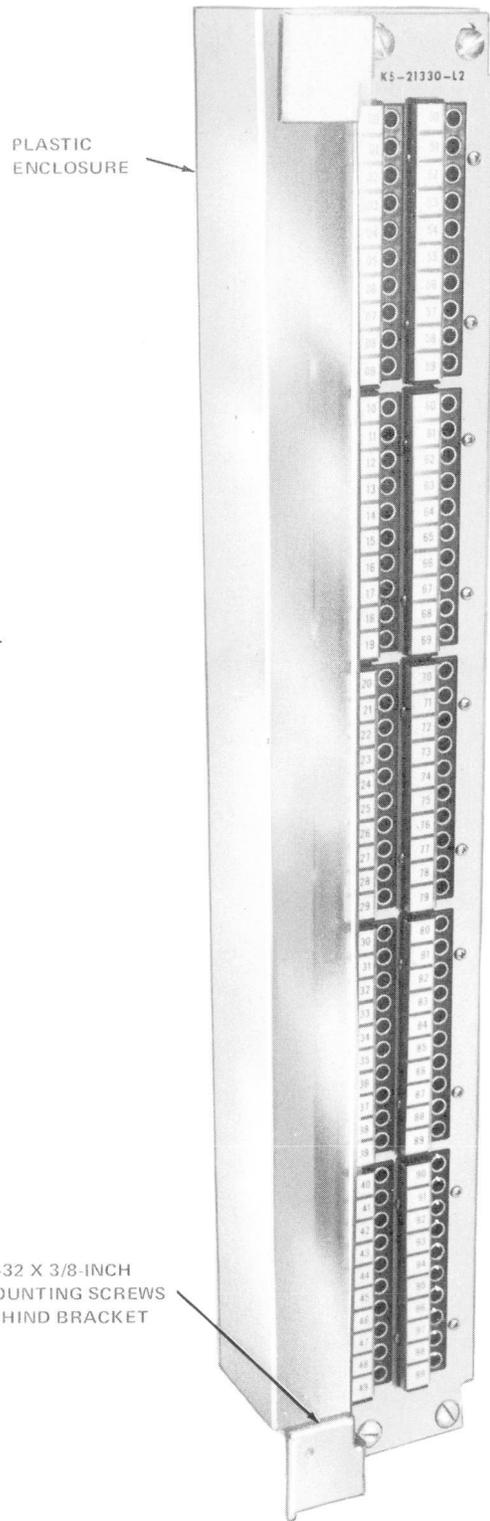

Fig. 19—KS-21330-L2 Service Observing Panel
3.07 The KS-21330, L2 service observing panel shown in Figure 19 is used to monitor the usage of ESS switching equipment. The back of the panel is protected by a clear plastic enclosure attached to the mounting bracket by two 10-32 by 3/8-inch mounting screws. Access to the internal components of this panel is gained by the removal of these two mounting screws.